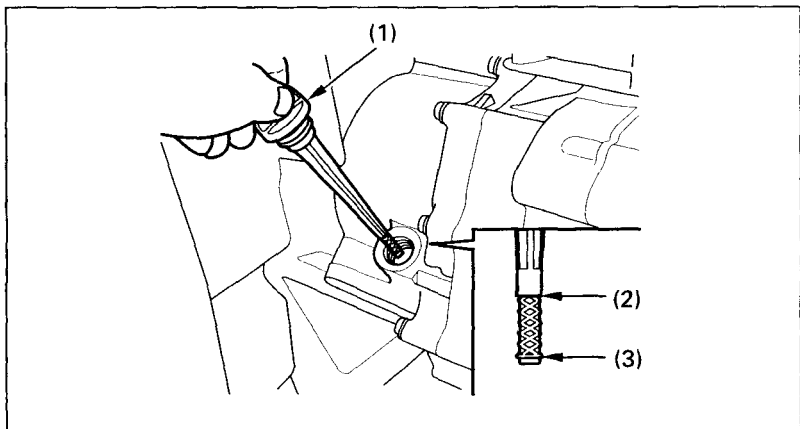

Fig. 4-10 (1) Oil filler cap/dipstick
4. After a few minutes, remove the oil filler cap/dipstick (Fig. 4-10) from the front crankcase cover and wipe it clean.
5. Insert the dipstick without screwing it in, then remove the dipstick and check the oil level. The oil level should be between the upper level mark (2) and the lower level mark (3) on the dipstick.
1. With the FOURTRAX on level ground, remove the oil filler cap/dipstick from the front crankcase cover (Fig. 4-10).